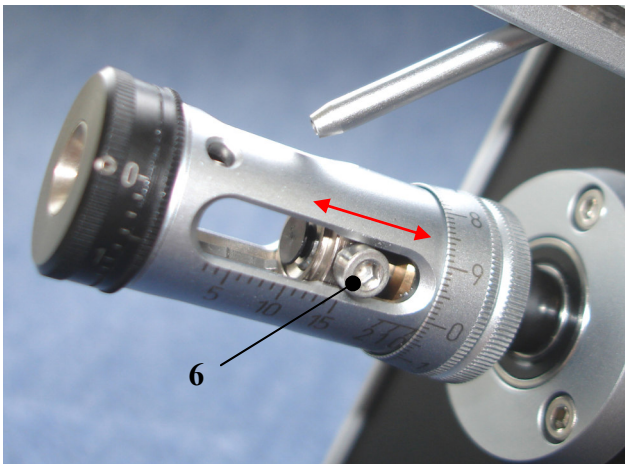

Fig. 20
- Slowly push the big Allen screw **(6)** back and forth. This will cause the four stripping blades to automatically fit into the tracks on the guide plate Fig. 20.